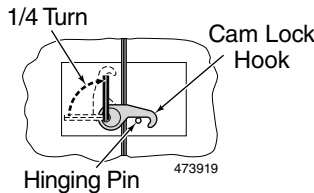

Figure 3. Engaged Position
2. Turn the cam lock clockwise 1/4 turn until the lock is engaged with the Hinging pin. Do not tighten yet. See Figure 3.